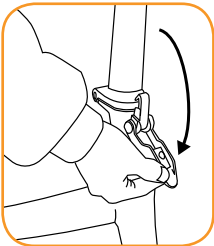
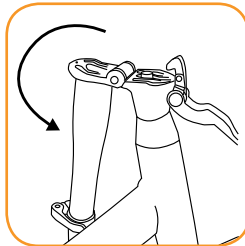

fig. 5.3
fig. 5.4
4. Unlock the steer clamp (fig. 5.3 - fig. 5.4) and fold the steering wheel against the right side of the bicycle. Be aware of any cables getting stuck behind the saddle